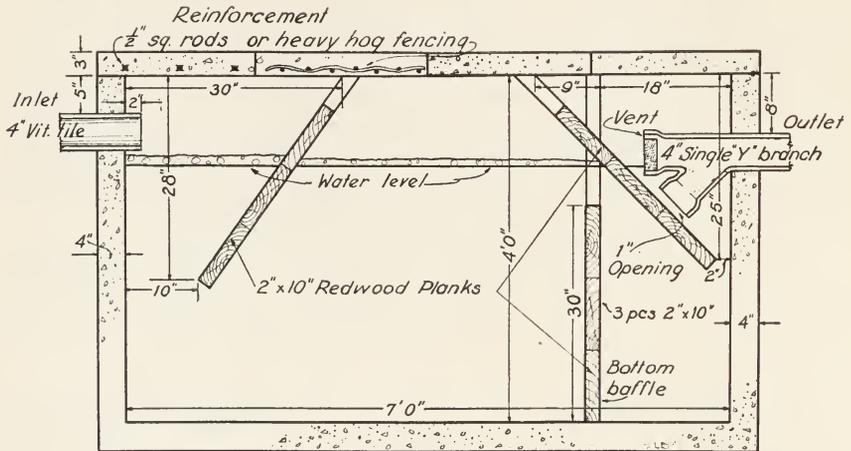

Fig. 2.—Longitudinal view of septic tank. The size shown is recommended for not more than 7 persons.
This circular describes a simple but satisfactory type of septic tank, widely adopted in California during the past fifteen years. As shown (figs. 2 and 3), it is made of poured concrete; but it may be made of rot-resistant wood.
*Completing the Tank.*—Point up any porous areas with a mortar made of equal parts of fine sand and cement. Insert the outlet Y branch in position as shown in figure 2, using sand-cement mortar to secure a water-tight joint in the wall. The upper branch of the Y should be plugged with mortar, except for a small vent at the top.